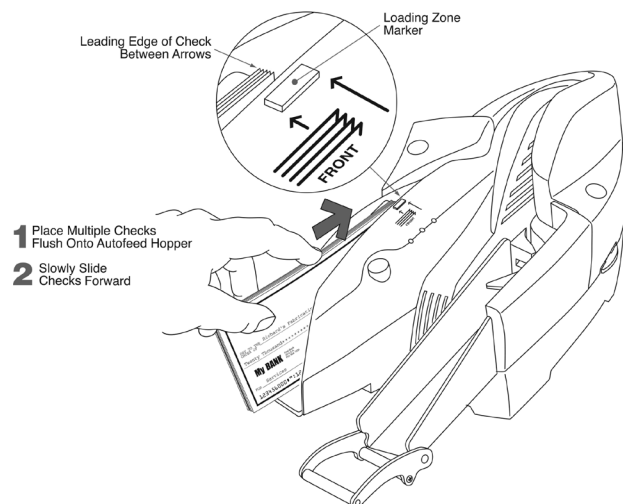

Figure 1. Stacking Checks in Input Hopper
- Stack the checks in the Input Hopper as shown in Figure 1.
- Slide the deck forward to the Loading Zone Marker so that all leading edges are between the arrows as shown in Figure 1.